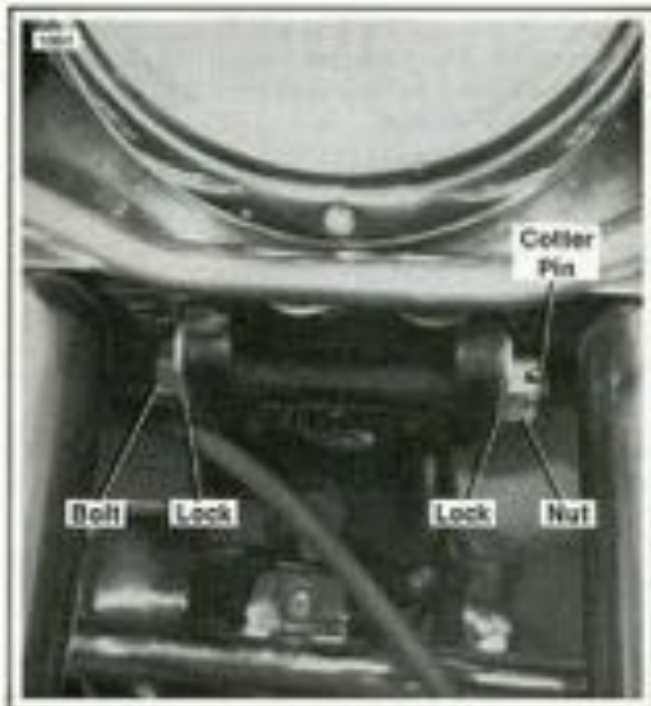

Figure 2-68. Adjusting Fork Trail
2. See Figure 2-68. Underneath fork head lower bracket is a large bolt secured with a castellated nut and cotter pin. Remove cotter pin, loosen nut and disengage lockplates (located under bolt head and nut) from slots in fork bracket.